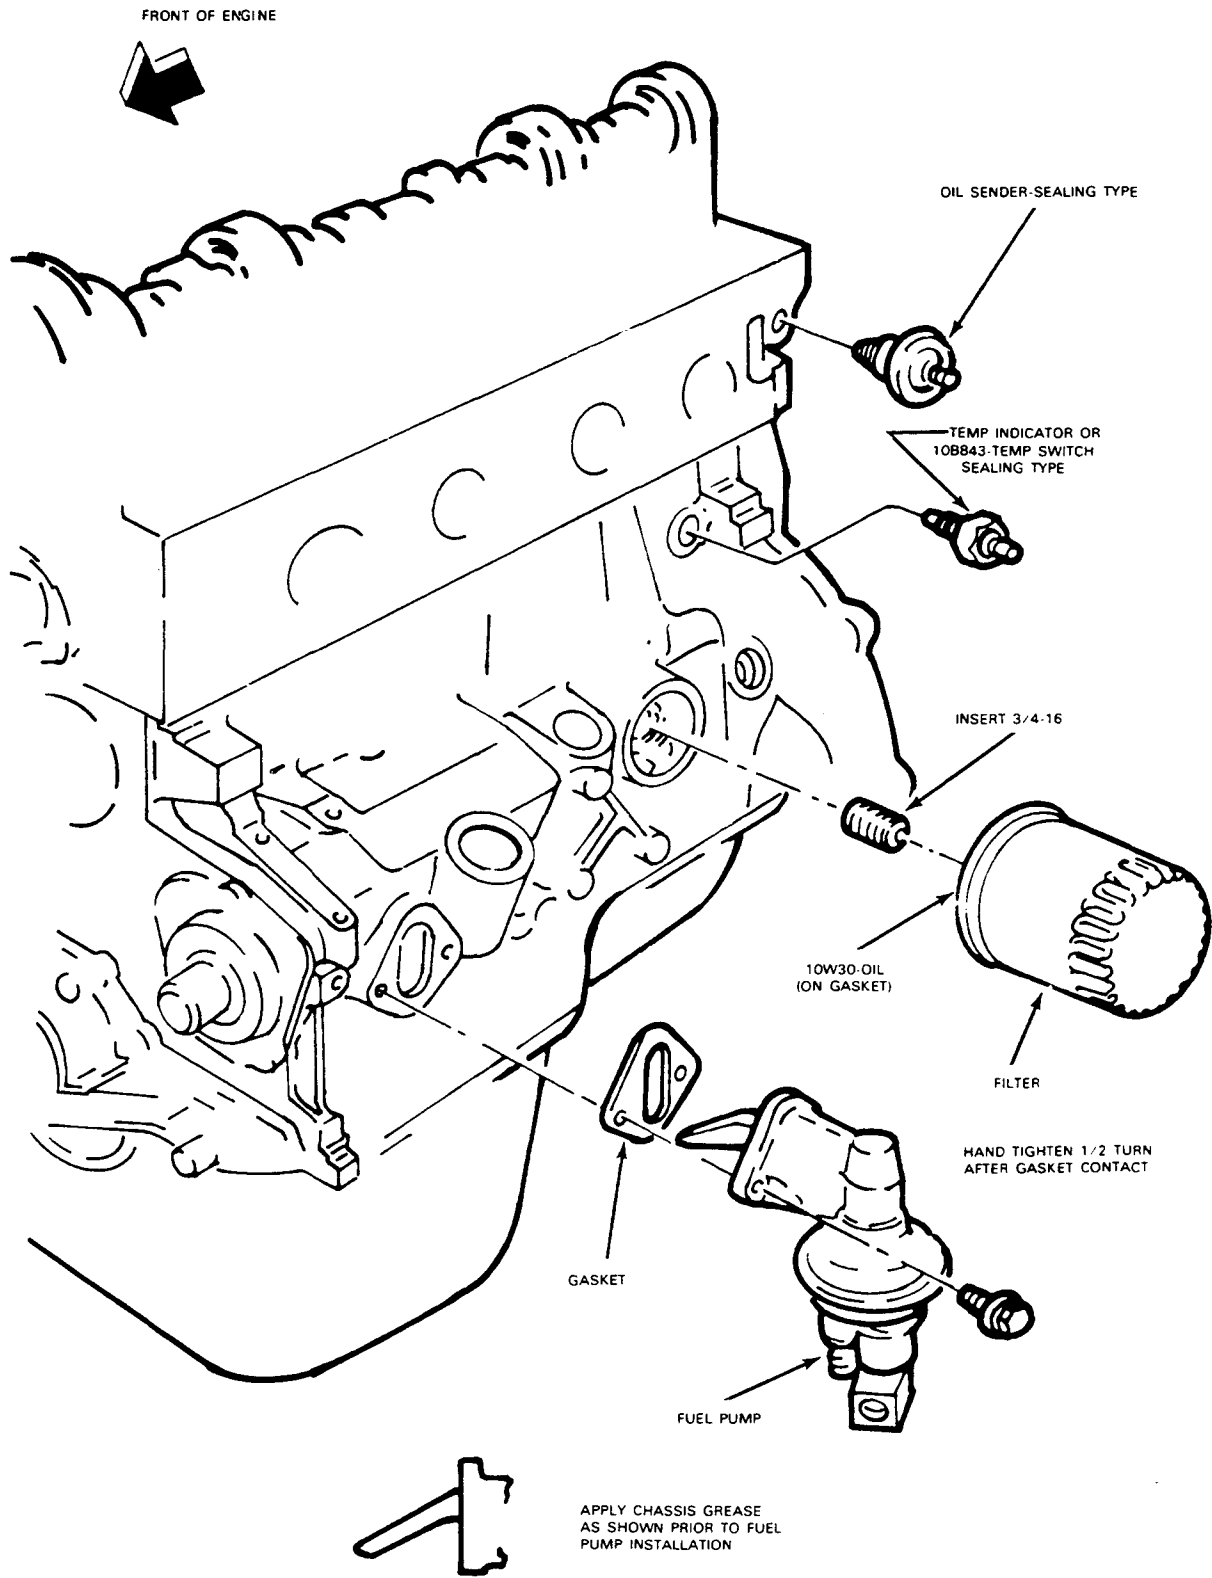

FIG. 51 Oil Filter, Fuel Pump and Sending Units
2. Inspect pilot bearing and starter gear teeth for wear. Fig. 51.